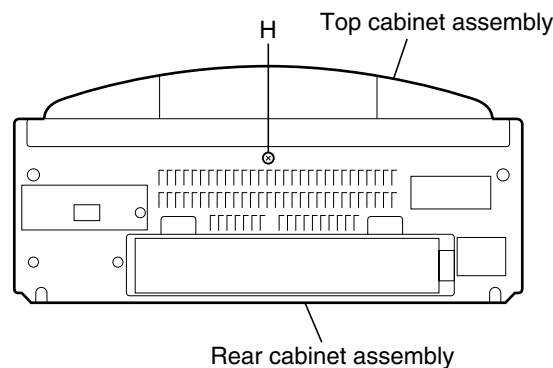

Fig.7
■ Removing the top cabinet assembly (See Fig.7 to 9)